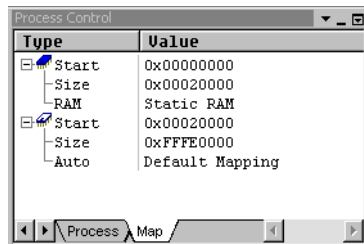

Figure 3-25 New memory map in the Process Control pane
11. Select **View** → **Pane Views** → **Memory Map** to view the new memory map before loading an image, shown in Figure 3-25 on page 3-28.